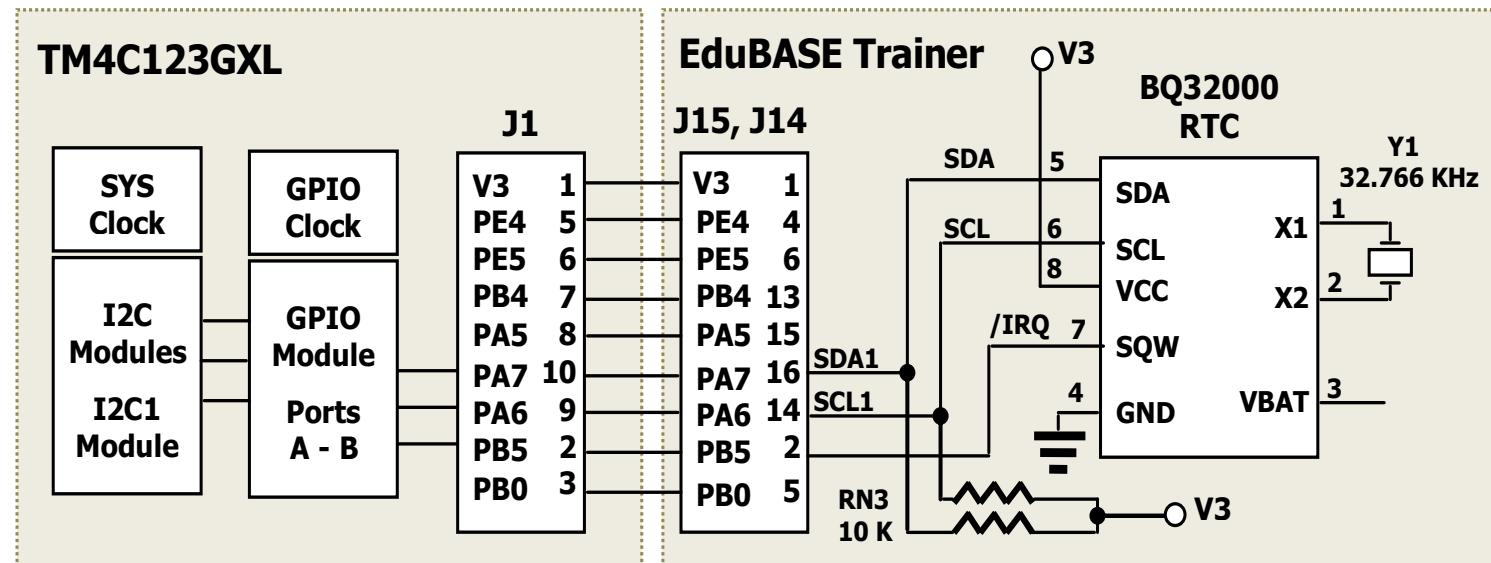

Figure 8.58 The interface between EduBASE Trainer and BQ32000 RTC.
- A functional block diagram of the interface between the EduBASE Trainer and BQ32000 RTC is shown in Figure 8.58.